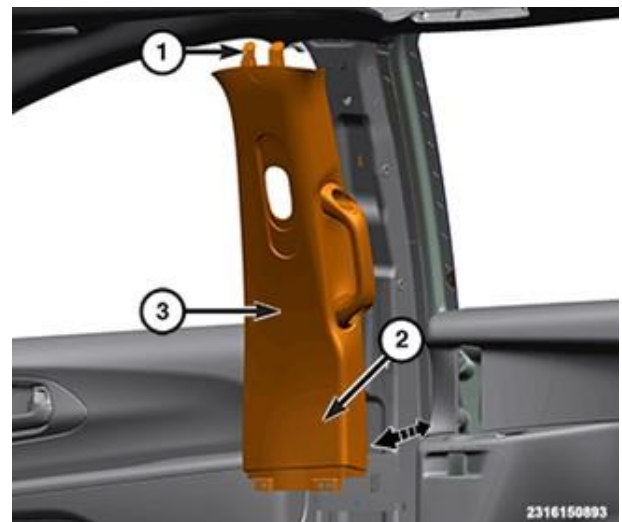

Figure 7 – Upper B-Pillar Trim Panel
17. Pull at the bottom of the upper B-pillar trim panel to release the retaining clips, then lower it to remove the upper tabs from the body (Figure 7).